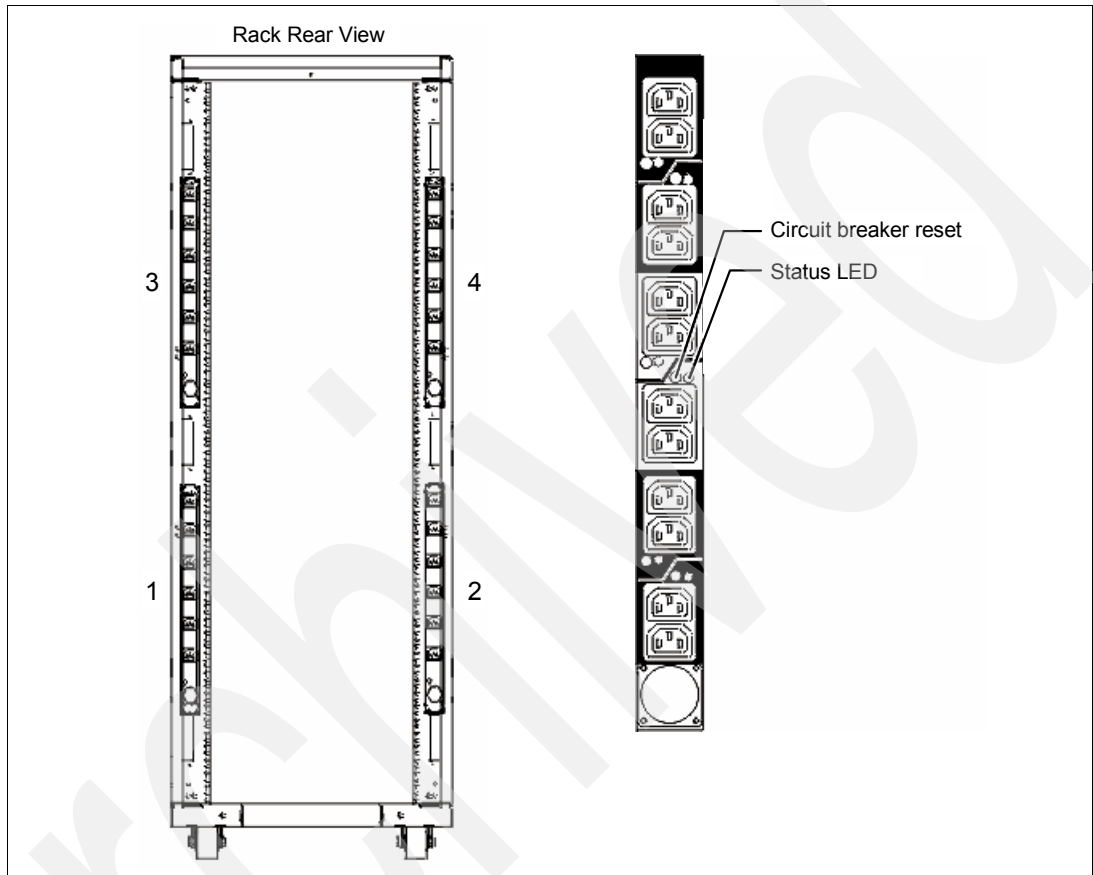

Figure 1-4 PDU placement and PDU view
- ▶ Up to four power distribution units (PDUs) can be mounted in the PDU bays (Figure 1-4 on page 17), but others can fit inside the rack. See 1.10.7, “The ac power distribution unit and rack content” on page 16.
Four PDUs can be mounted vertically in the back of the T00 and T42 racks. See Figure 1-4 for the placement of the four vertically mounted PDUs. In the rear of the rack, two additional PDUs can be installed horizontally in the T00 rack and three in the T42 rack. The four vertical mounting locations will be filled first in the T00 and T42 racks. Mounting PDUs horizontally consumes 1U per PDU and reduces the space available for other racked components. When mounting PDUs horizontally, use fillers in the EIA units occupied by these PDUs to facilitate proper air-flow and ventilation in the rack.